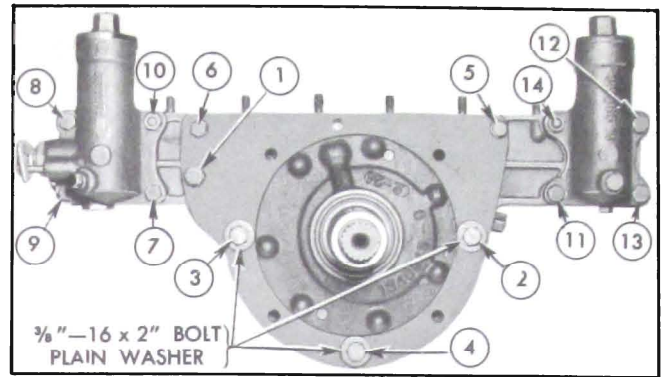

Figure 5-120—Reaction Shaft Flange and Accumulator Tightening Sequence
5. Install 3 special bolts (3/8" -16 x 2") with plain washers in positions marked 2, 3, 4 in Figure 5-120. These bolts are for assembly purposes only. Install regular pump cover bolts and lockwashers at positions marked 1, 5, 6. Coat threads of bolts No. 5 and 6 with Permatex No. 3.
12. Referring to Figure 5-120, tighten all bolts and nuts (1 through 14) to 5 ft. lbs. torque in the numerical sequence shown. Following the same sequence again, tighten bolts 1 through 4 to 35-40 ft. lbs. and the remaining bolts and nuts to 20-25 ft. lbs.